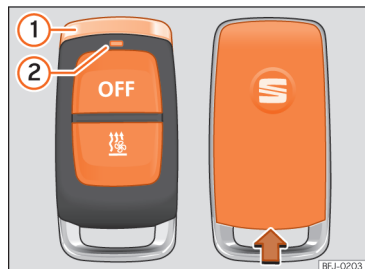

Fig. 117 Independent heating: radiofrequency remote control key
When the buttons are pressed, the LED of remote control **»»** Fig. 117 **②** gives the user a range of information:
- Secure the remote control with the chrome pin **»» Fig. 117 ①** vertically facing upwards.
- Insert a suitable tool, e.g. a screwdriver, into the indentation in the remote control housing, in the direction of the arrow **»» Fig. 117**.
- Slide the cover in the direction opposite to the arrow until it clicks into place **»» Fig. 117**.